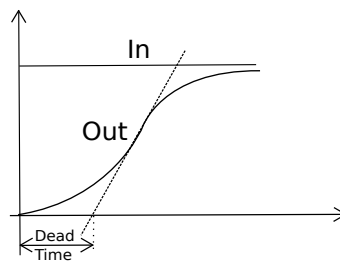

Figure 2: How to estimate dead time of a second-order system
- Lambda tuning requires us to measure the process dead time, this can be performed as illustrated in figure 2 and on page 197 in Thomas. First, find the steepest part of the step response curve. Second, draw a tangent to this part of the curve. Last, measure the time between the intersection of the tangent with the x-axis and the point of the step in the input signal. This time is an approximation of dead time. Remember to subtract this dead time when the time constant is calculated.
- Ziegler-Nichols tuning requires estimation of amplitude margin and ω_π . This can be quite time consuming using repeated step response measurements. Furthermore, a second order process without dead time, like ours, has infinite amplitude margin which makes such a measurement impossible. An alternative method is to approximate the process with a first-order plus dead time model, $G_P(s) = e^{-Ls} \frac{K_P}{1+sT_P}$. Estimate the dead time and time constant as illustrated in Figure 2, also estimate the amplification and then get A_m and ω_π from Matlab. Use the following matlab commands to calculate A_m and ω_π .